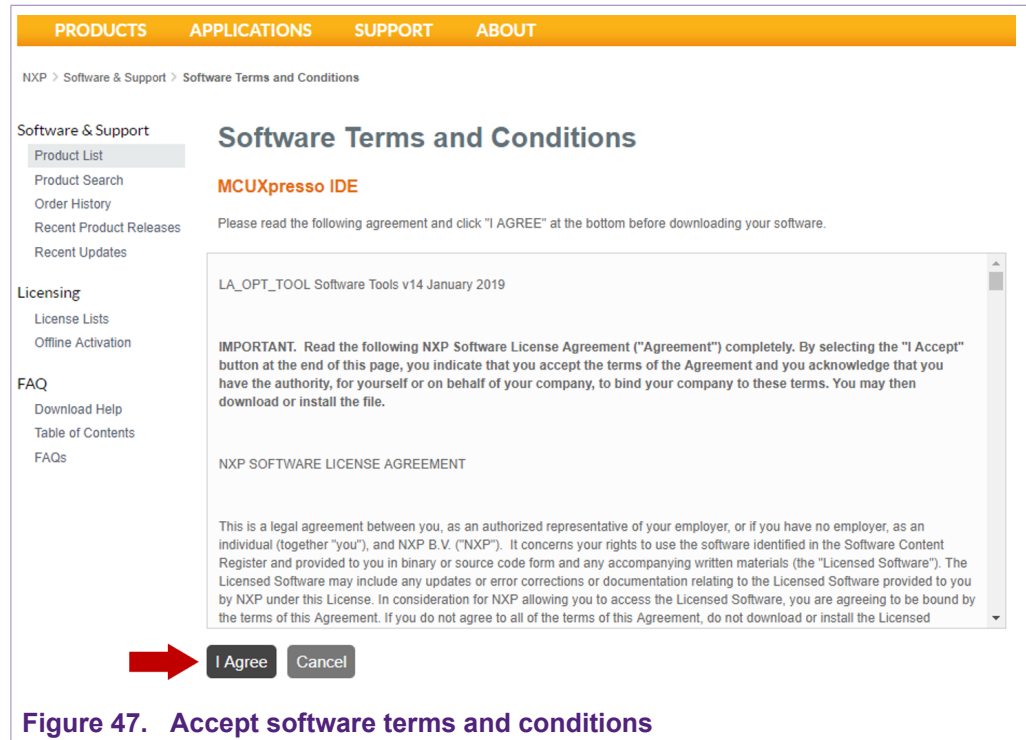

Figure 47. Accept software terms and conditions
5. Accept software terms and conditions as shown in Figure 47: